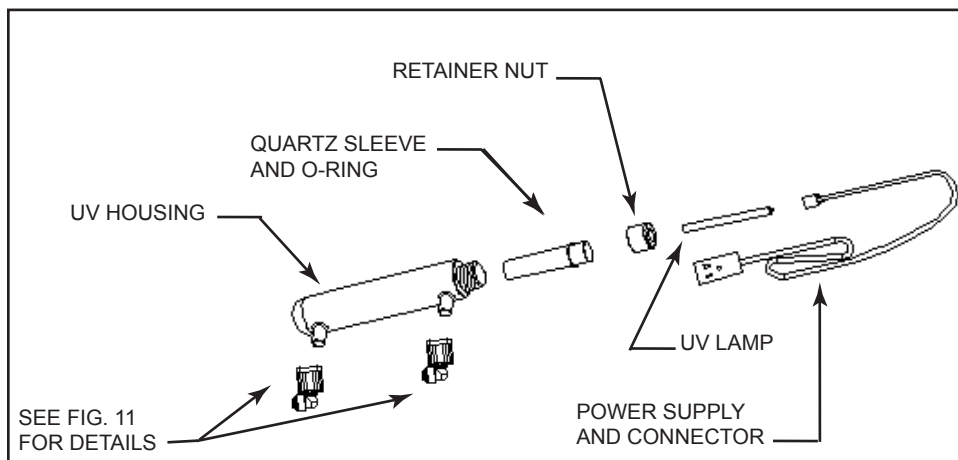

FIG. 10
- (A) REMOVE LOWER AND UPPER FRONT PANELS, IF NEEDED
- (B) SCREW UV HOUSING CLIP TO FRAME (ONLY ONE CLIP REQUIRED). HOLES PROVIDED IN FRAME UPPER LEFT SIDE (BACK VIEW).
- (C) INSTALL INTER CONNECTING WATER FITTING TO UV HOUSING, PROVIDED. REFER TO FIG. 10 AND 11 FOR DETAILS.
- (D) INSTALL QUARTZ SLEEVE WITH O-RING INTO UV HOUSING. ASSEMBLE RETAINER NUT - DO NOT OVER TIGHTEN REFER TO FIG. 10 FOR DETAILS.